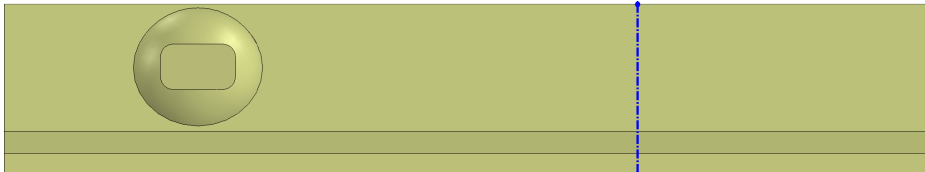

Fig. 51
Step 4. Sketch vertical centerline to right of center, **Fig. 51**.